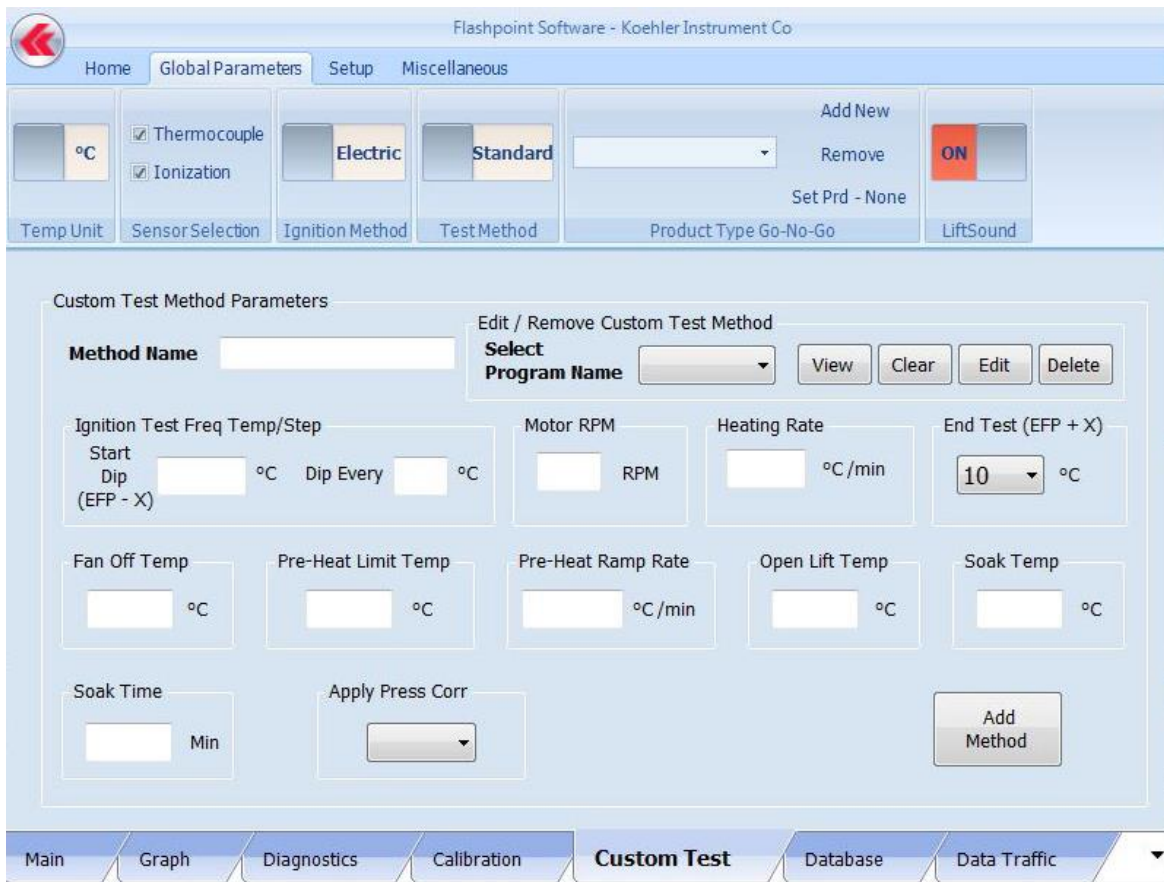

Figure 20: Custom Test Method Screen
9. **Custom Test Screen** - Clicking on the Custom Test Tab located at the Lower Tab Section of the Main Menu will bring up the Custom Test Method Parameters Menu as shown in **Figure 20**: